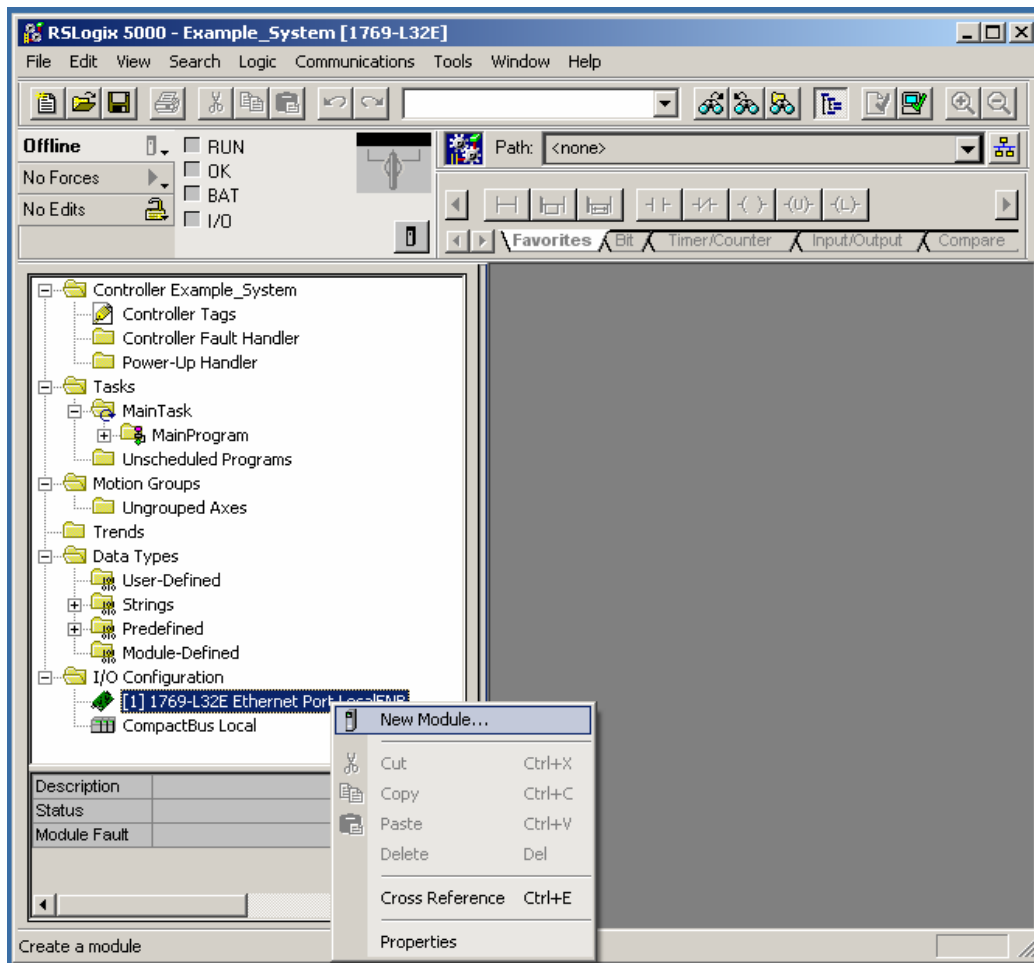

Figure 4. Example system “Adding the New Module to the I/O configuration”
- Right click to enable the addition of a new I/O module to the project (in this case, the Yaskawa AC drive). See Figure 4.